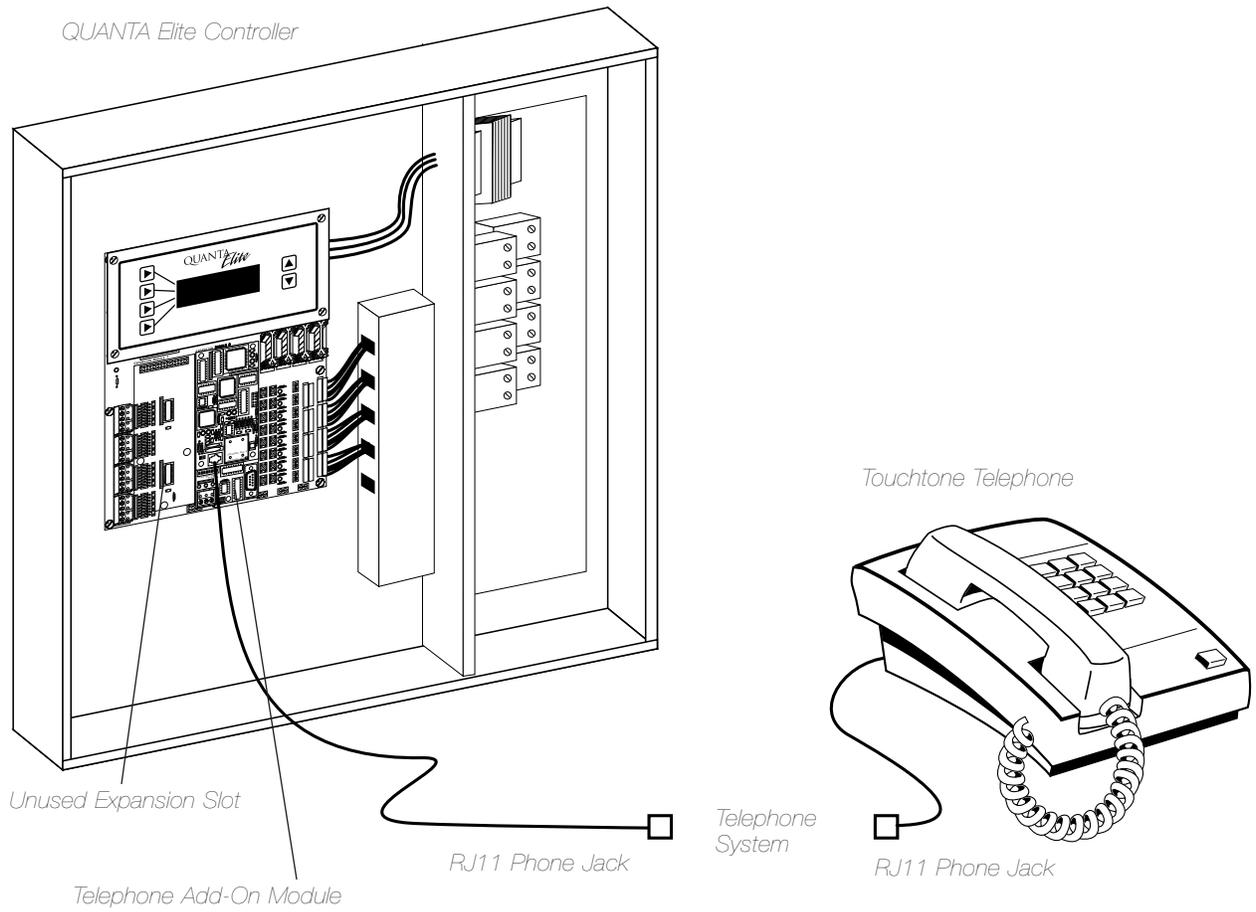

Figure A.1 – DTMF Phone Control
module plugs into either of the expansion slots provided on the QUANTA Elite controller CPU I/O board. (See Figure A-1.)
1. If you are field-installing the module, power-down the controller and plug the module into an unused expansion slot on the controller CPU I/O board. (See Figure A-1.)